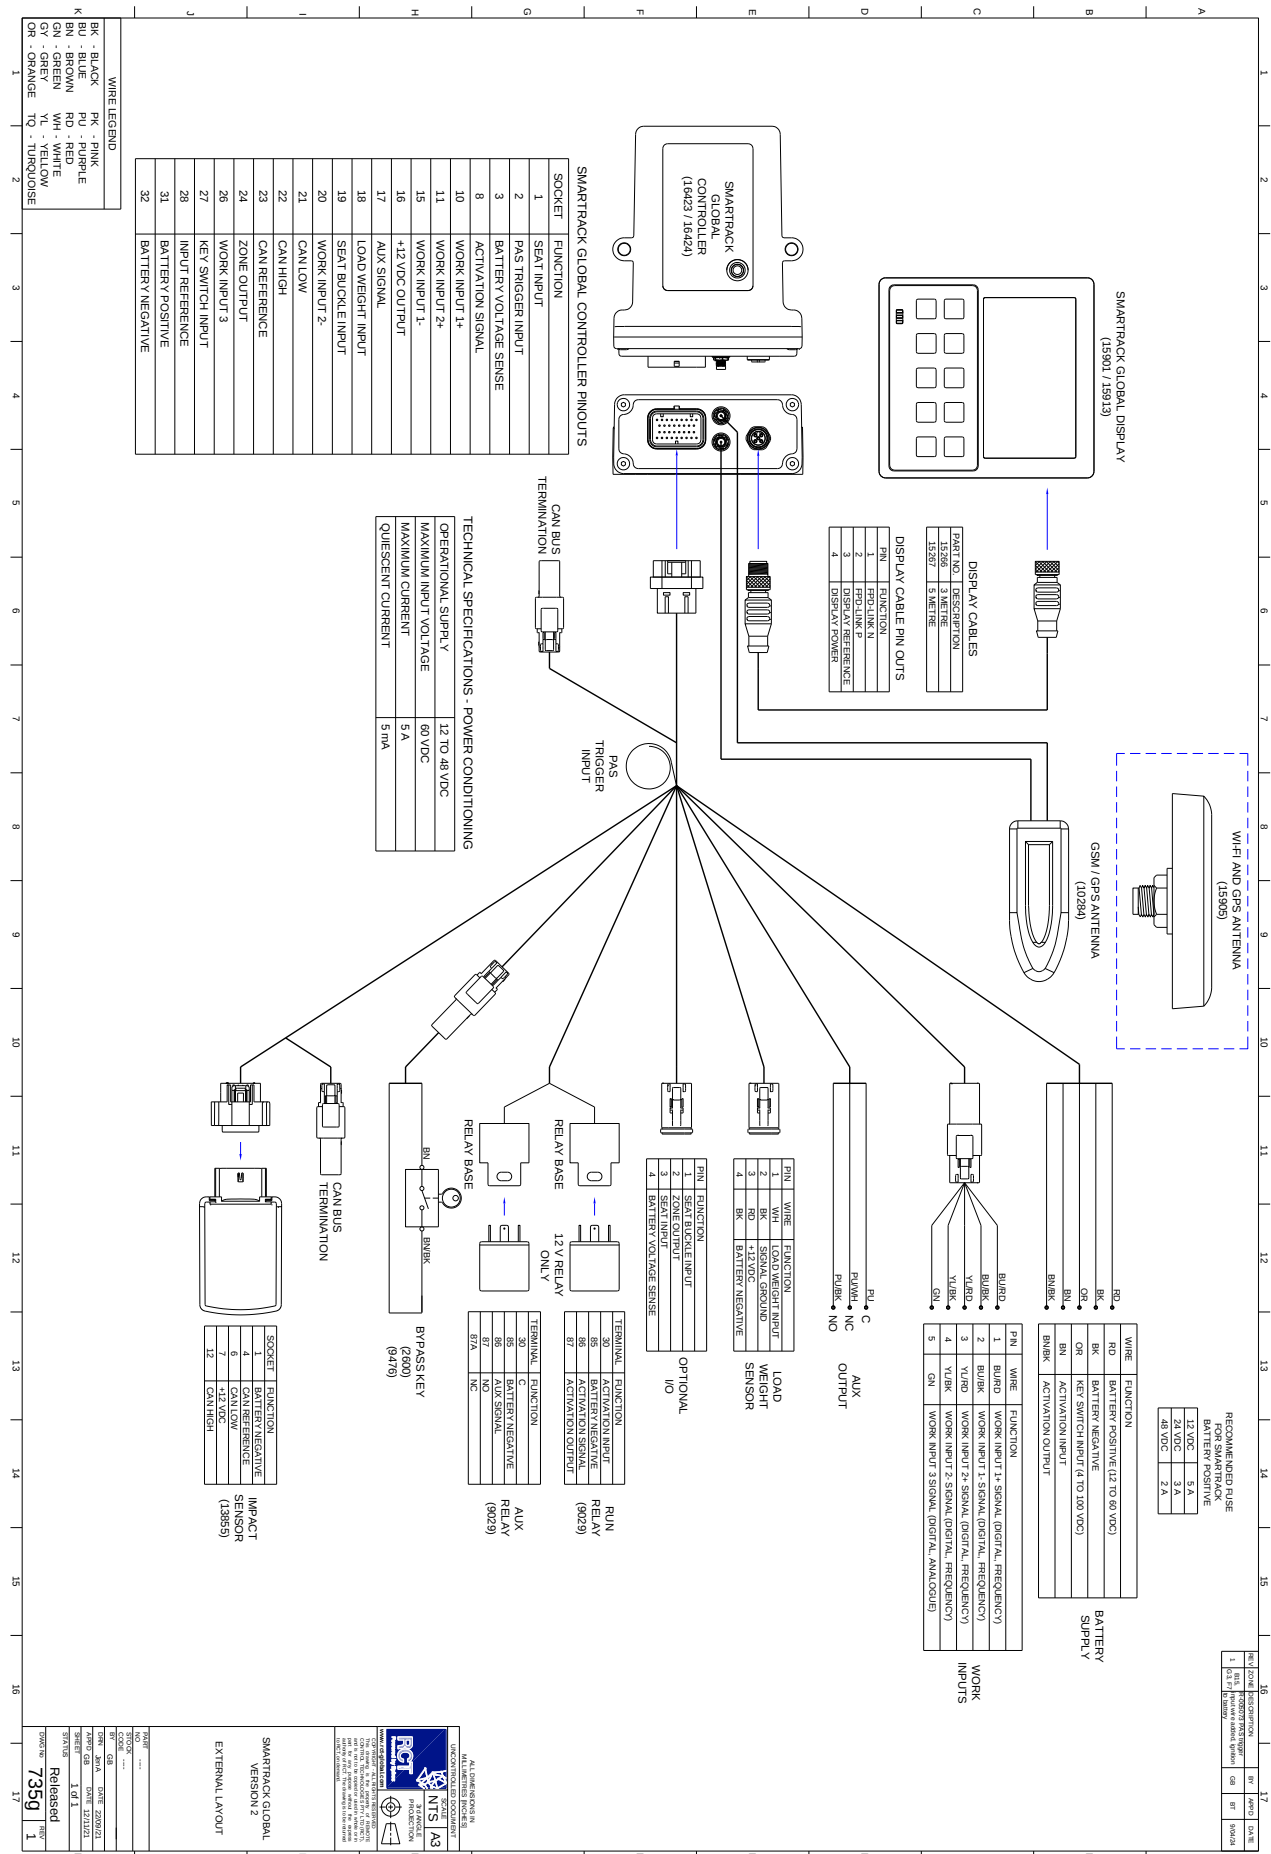

Figure 10 Drawing 735g – SmarTrack Global version 2 wiring
2.	Make the battery connections via the rated fuse (refer to Figure 10).
Refer to the wiring table in Figure 10 drawing 735g as a guide to the connection of the control unit.